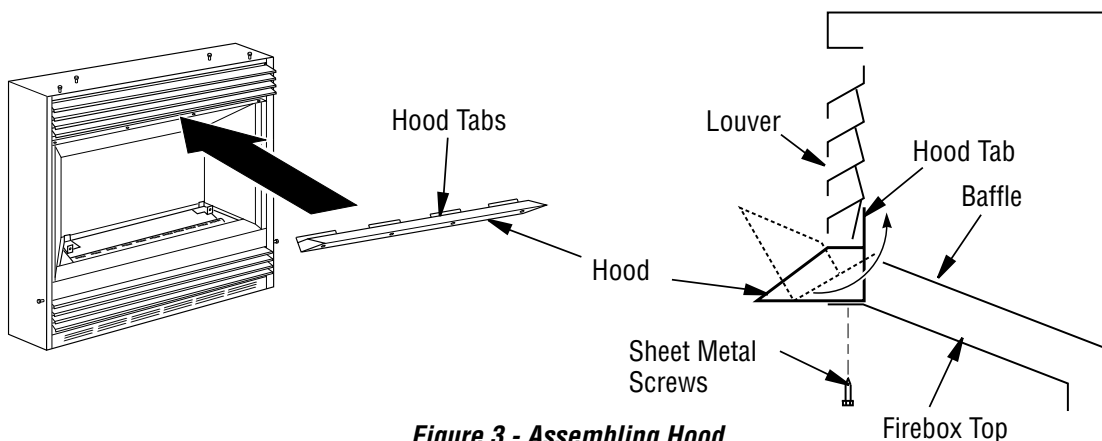

Figure 3 - Assembling Hood
5. Rotate hood as shown in Figure 3. Make sure hood tabs point toward fireplace.
6. Insert hood tabs between baffle and louvers (see *Figure 3, Page 7*).
7. Gently rotate hood to upright position. Make sure hood tabs are behind louvers and hood is resting on firebox top (see *Figure 3*).
9. Insert screws as shown in *Figure 3*. Tighten screws firmly.